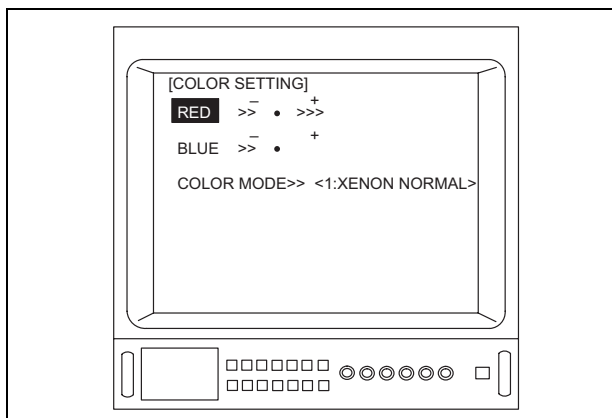

Figure 5.24
7. Depress the menu switch “◀” or the “Enter” key on the keyboard to adjust the color tone (see Figure 5.24).
If the color tone is increased above the midpoint, the menu is displayed shown in Figure 5.24 and “>>>” flashes.
- When the color tone level is at a maximum/minimum level, “>>>”/“<<<” is lit (see Figure 5.24).